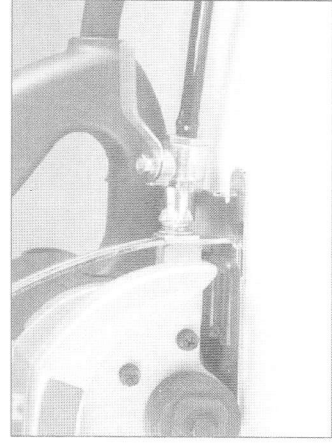

Figure-4
4. Align the bridge with the wing nut hole and insert wing bolt. (See Figure-4)